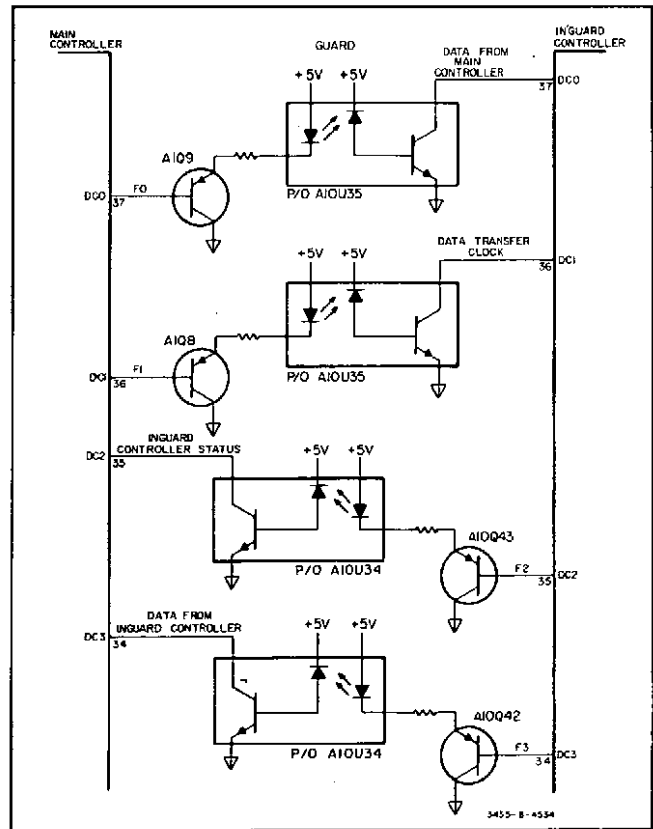

Figure 8-31. Controller Data Transfer Circuit.
**8-108. Transfer Circuit.** Figure 8-31 shows a simplified diagram of the data transfer circuitry between the inguard and main controllers. The direct control lines, DC0 through DC3, of the processors are used for communication. The inguard and main processors are electrically isolated by optical isolators. Control lines DC0 and DC1 are driven by the main controller. During the inguard to main transfer mode, Line DC0 is used to indicate when the main controller is ready to receive data. Control Line DC1 is used for the transfer-clock signal during both transfer modes. Control Lines DC2 and DC3 are driven by the inguard controller. Control Line DC2 is used by the inguard controller to indicate whether it is in a "send" or "receive" state. Transition from the receive to the send status indicates to the main controller when the inguard controller is ready to send data. Control Line DC3 is used by the inguard controller to indicate when it is ready to receive data during the main-to-inguard transfer mode and to send data during the inguard to main transfer mode.